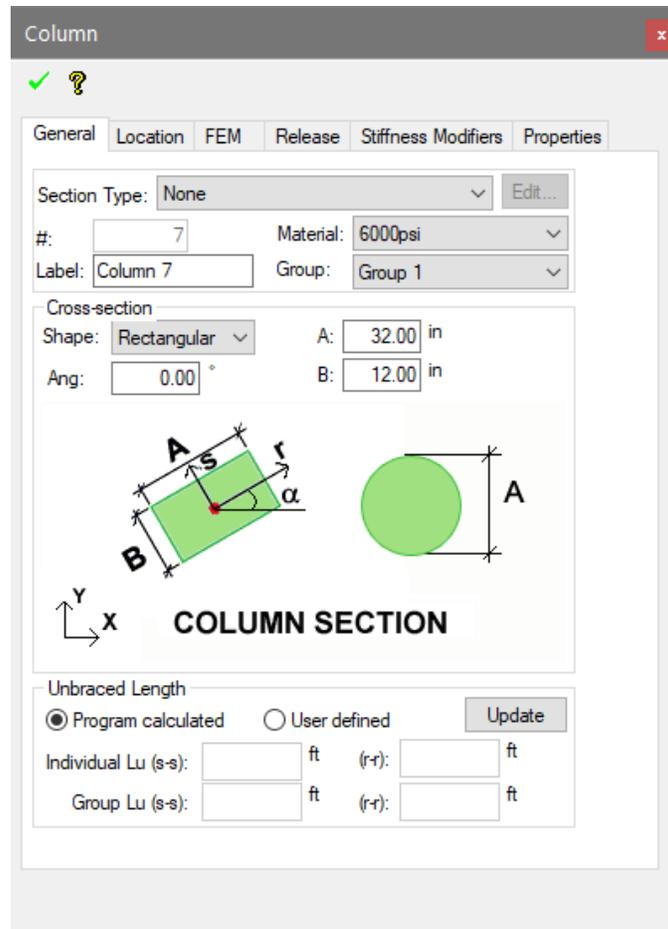

Figure 5-3
- Click *OK* to make the modification and close the window. If we bring up the properties on any column in the model, we should see the material property set to 6000psi as shown in **FIGURE 5-3**.